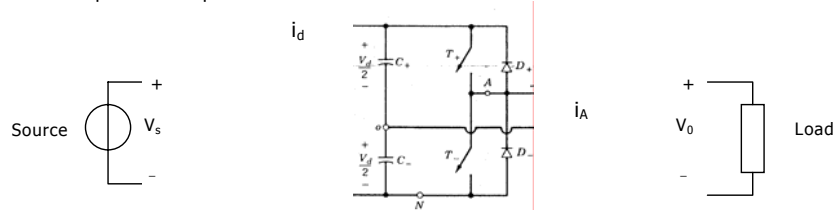

Fig. 16
For a certain application a dc voltage has to be stepped up from a source voltage V_s to a higher load voltage V_0 . The voltage across the load should be fairly constant. The circuit as shown in Fig. 16 is available, however the circuit is not complete yet and at least an inductor L has to be added. The indicated terminals are not necessarily the terminals that have to be used as input and output.
- (5) 3.1 What type of converter would you preferably use for this conversion?
- (10) 3.2 Show by means of a circuit diagram how the desired conversion can be obtained by using the circuit from Fig. 16. Show where the inductor L should be added and include the connections to source and load. Describe shortly how the circuit is operated.